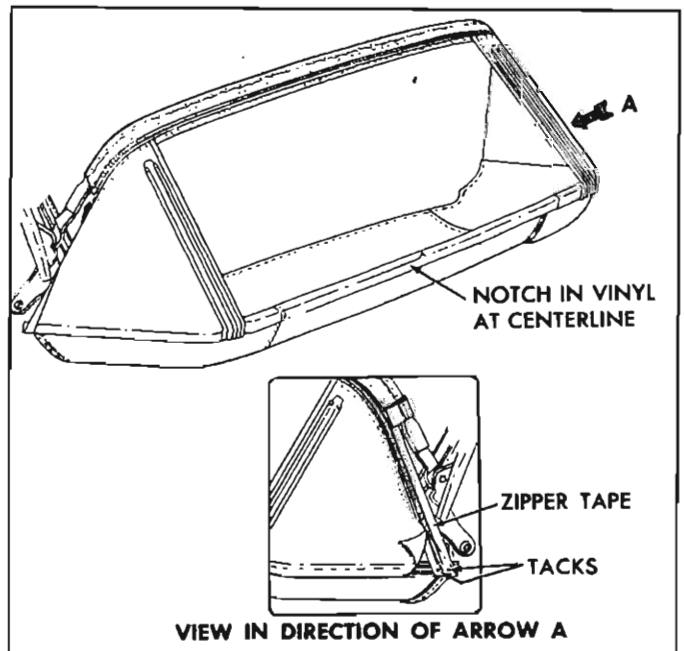

Fig. 50—Back Curtain Installation
NOTE: Notch in back curtain vinyl at lower edge indicates centerline of back curtain assembly (fig. 50). In addition, back curtain lower edge should extend $\frac{1}{2}$ " below lower edge of trim sticks.
9. Tack curtain to rear and rear quarter trim sticks. On right side, tack zipper tape to forward edge of rear quarter trim stick. (See View "A" in Figure 50).